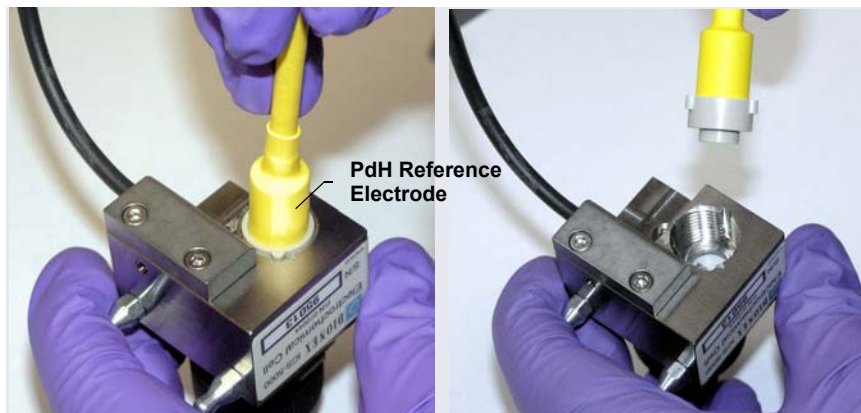

Figure 9-68. Removing the PdH Reference Electrode from the Reference Electrode Well
3. Pull the reference electrode out of the well (see Figure 9-68).